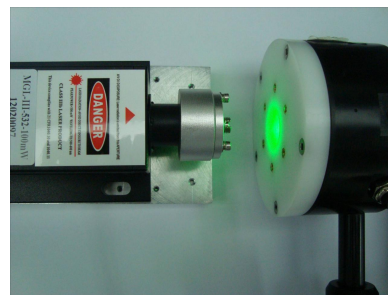

Figure 3: Laser output power of unconnected fiber
- Turn on the laser, maximum the output power of laser. The output of the laser will highly divergent because of the focusing optical system in the fiber coupler. (Figure 3) Let the laser warm up at least 5 minutes 20 minutes is recommended. Make sure an eclipser in front of the aperture.